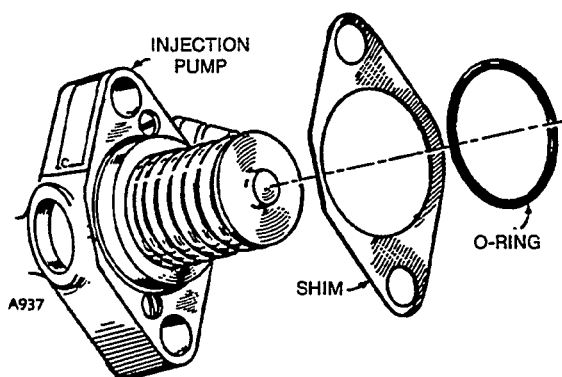

FIGURE 41. SHIMMING THE PILOT
1. Slide the shim or shims (using proper thickness of shims for correct timing) over the pilot until they are flat on the pump flange. See Figure 41.